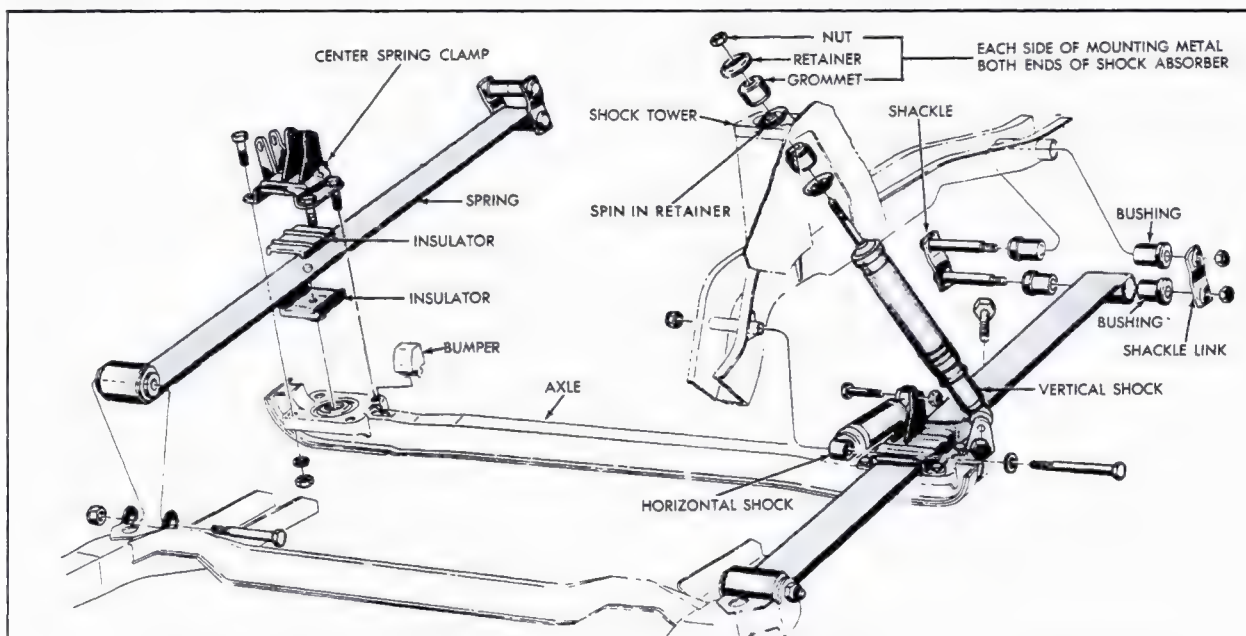

Fig. 4-16 Rear Suspension - 693
The rear suspension, Fig. 4-16 on 693 series cars consists of two single leaf, semi-elliptical springs, two vertical and two horizontal shock absorbers.
22. Rear Vertical Shock Absorber, (Fig. 4-16)
23. Rear Horizontal Shock Absorber, (Fig. 4-16)
24. Rear Leaf Spring, (Fig. 4-16)